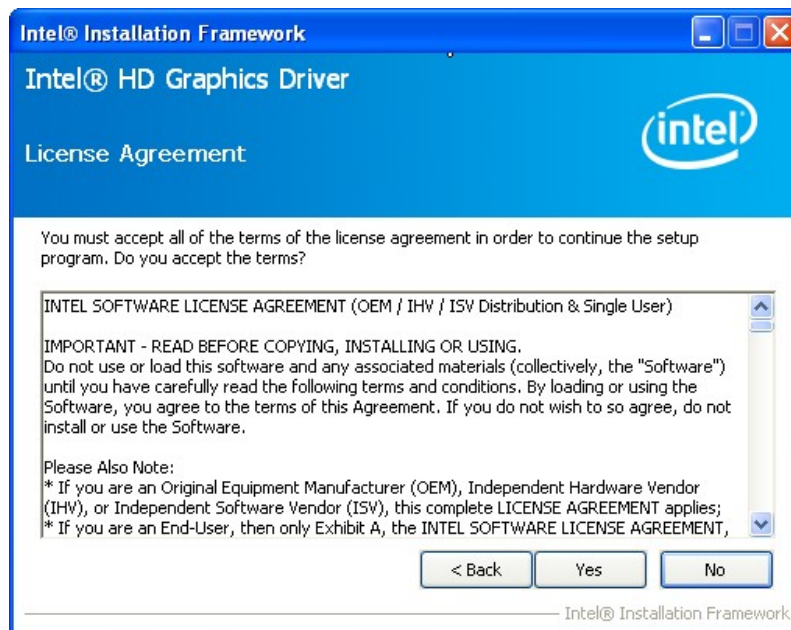

Figure 6-9: Graphics Driver License Agreement
Step 5: The license agreement in **Figure 6-9** appears. Read the **License Agreement**.